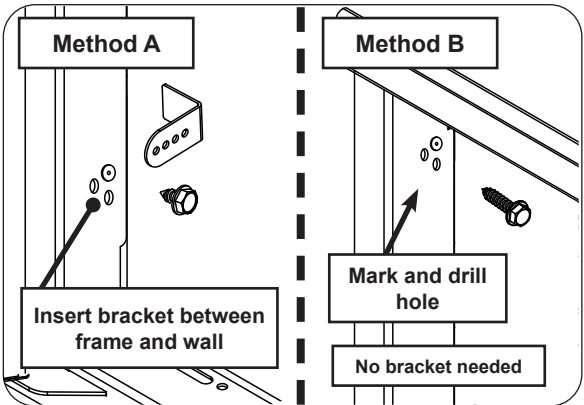

Fig. 1-3 Installation methods
6. Install the hardware kit as applicable to your enclosure. See Fig. 1-3. This kit can be installed using two methods. Find your preferred method in the installation section on the next page.